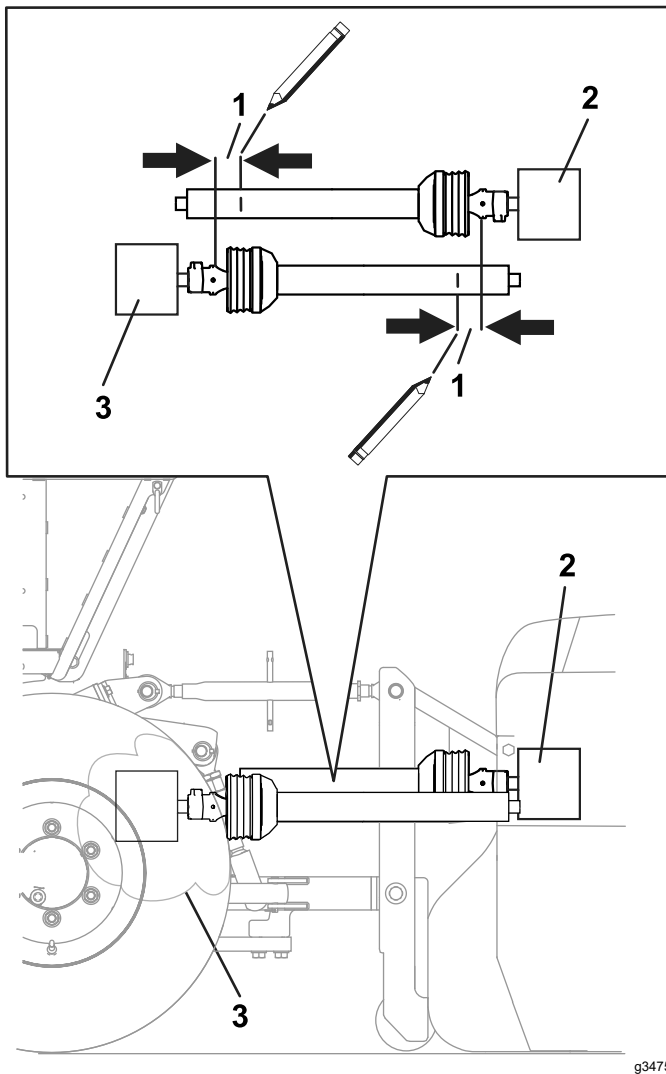

Figure 13
5. Hold the driveshaft sections parallel to each other to determine if they are too long (Figure 13).
Note: Each driveshaft section must be 76 mm (3 inches) from the U-joint (Figure 13).
6. If the driveshaft sections are too long, mark 76 mm (3 inches) back from U-joint on each section (Figure 13).